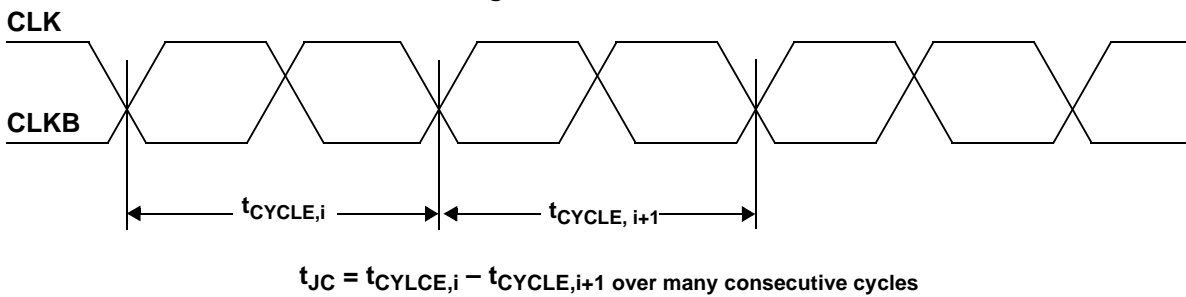

Figure 11. Cycle-to-cycle Jitter
*Figure 11* shows the definition of cycle-to-cycle jitter with respect to the falling edge of the CLK signal. Cycle-to-cycle jitter is the difference between cycle times of adjacent cycles over many cycles (typically 12800 cycles at 400 MHz). Equal requirements apply for rising edges of the CLK signal.  $t_{JC}$  is defined as the clock output cycle-to-cycle jitter.